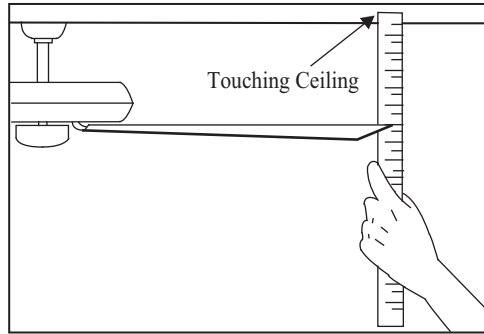

Figure 16
2. Most fan wobble problems are caused when blade levels are unequal. Check this level by selecting a point on the ceiling above the tip of one of the blades. Measure from a point on the center of each blade to the point on the ceiling. Measure this distance as shown in Figure 16. Rotate the fan until the next blade is positioned for measurement. Repeat for each blade. Measurements deviation should be within $1/8''$. Run the fan for 10 Minutes.